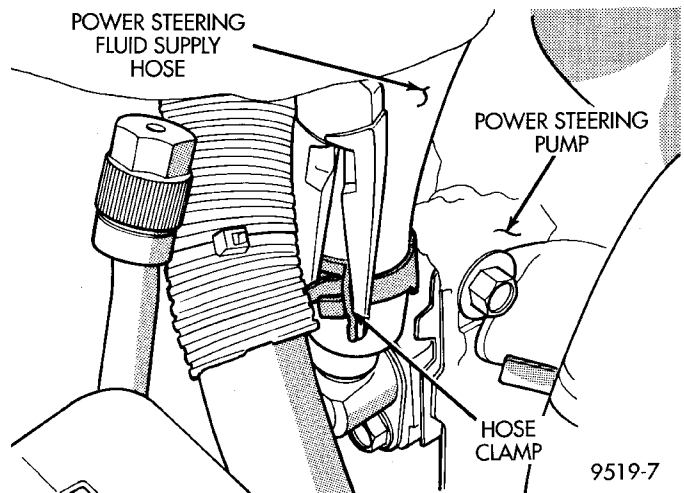
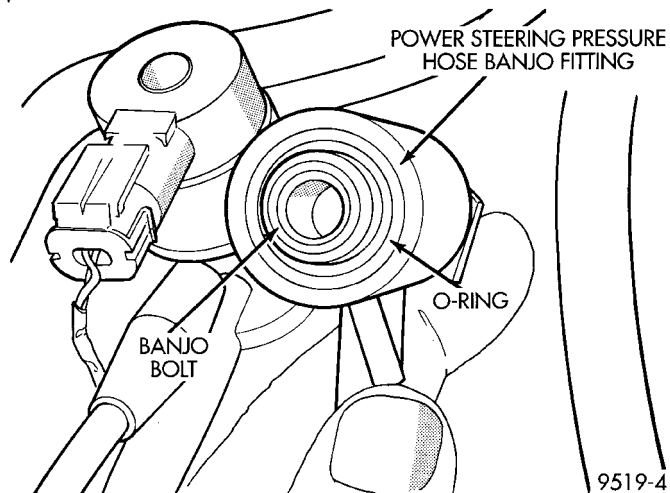

Fig. 22 Power Steering Fluid Supply Hose At Power Steering Pump
Fig. 28 O-Ring Installed On Power Steering Hose Banjo Fitting
(3) Discard all used O-rings on the power steering pressure hose Banjo fitting and Banjo bolt.
(4) Remove hose clamp attaching power steering fluid supply hose to the power steering pump suction fitting (Fig. 22). Remove power steering fluid supply hose from power steering pump fitting.
(6) Install power steering supply hose on power steering pump suction fitting (Fig. 22). Install hose clamp on hose, being sure hose clamp is installed on hose past upset bead on power steering pump tube.
(7) Using a lint free towel, wipe clean all open power steering hose ends, and power steering pump fittings.
(8) Install a new O-ring on the end of the power steering pressure hose banjo fitting (Fig. 28).